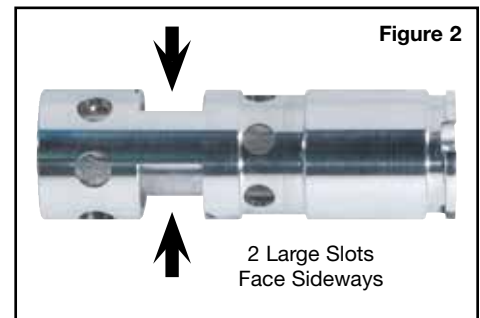

Figure 2
- b. Rotate Sonnax sleeve so that the 2 large slots are facing sideways (**Figure 2**) and insert into bore.